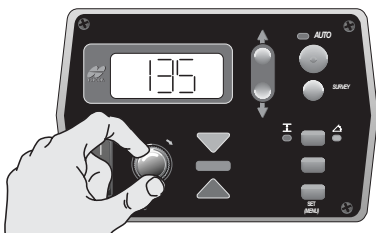

Figure 26. Setting the Lower Valve Offset Value
4. Turn the Grade Adjustment Knob counter-clockwise, decreasing the valve offset value until the hydraulic cylinder no longer moves. Then slowly rotate the Grade Adjustment Knob clockwise until the hydraulic cylinder just begins to move down (Figure 26).